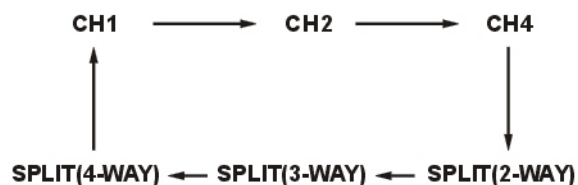

Fig. 3 Source Select Sequence
- Source input modes that are skipped through the menu control function will be skipped (example, see Fig. 3 that shows sequence with CAMINPUT 3 skipped).